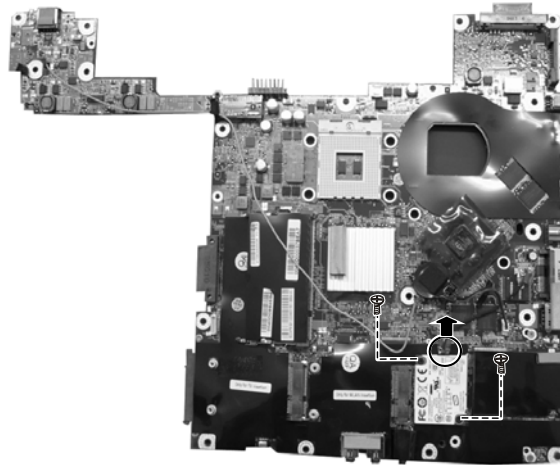

Figure 2-25 Free the system board
6. Remove two screws and disconnect the cable, now you can separate the modem board from system board and free the system board. (Figure 2-25)